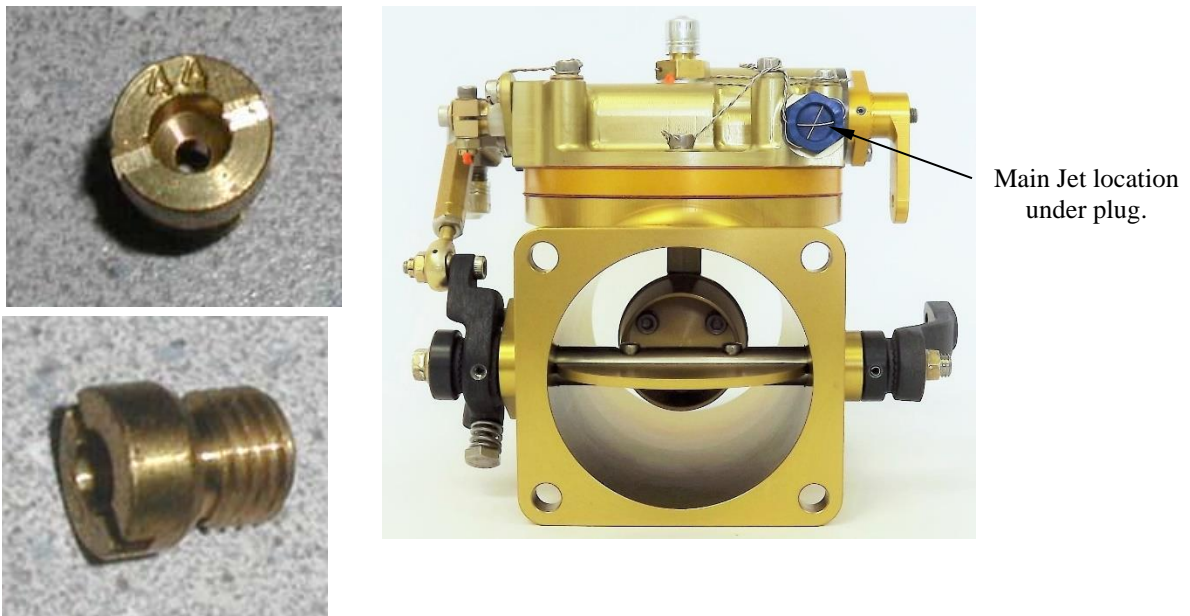

Figure 4-2.
- H. If the full rich full throttle mixture is not correct, it can be adjusted by changing the main jet located inside the fuel controller. See Figure 4-2.